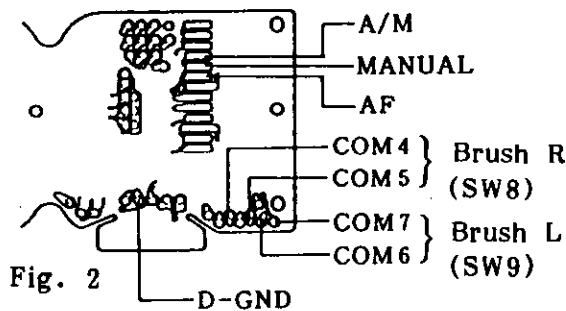
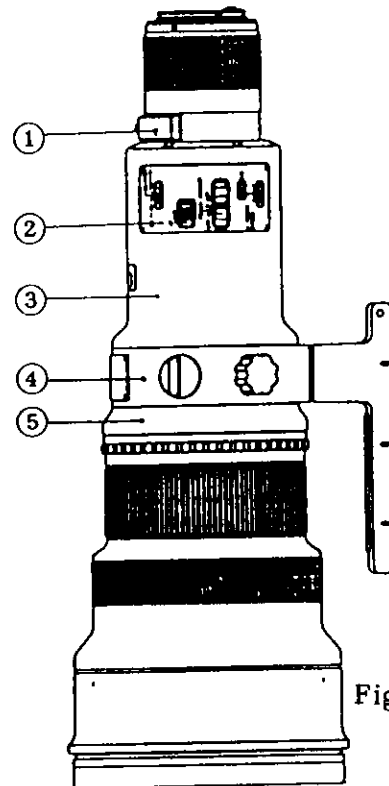

Fig. 2
Fig. 1
To disassemble, remove (1) through (5), attach test leads to the main flex at COM4 through COM7 and D-GND (Fig. 2), short the A/M and MANUAL pads once to set manual focus, attach a camera and adjust as indicated below (Fig. 1 through 4).
- Remove: (1) Focus Holder
(2) Switch Panel [Pg. 7 (1) & (2)]
(3) Indicator Sleeve [Pg. 7 (3)-(6)]
(4) Tripod Ring [Pg. 11 (1) & (2)]
(5) Retaining Ring [Pg. 12 (9)]
1. Attach COM4 test lead to CH1 and COM5 test lead to CH2 of a dual-trace scope (Fig. 2). Turn the manual ring slowly while monitoring the scope. Adjust the screw on Brush R (SW8) until the pulses are 180° out of phase. Disconnect the leads.